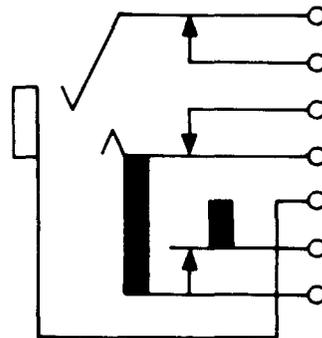

Fig. 9—559A Jack
2.09 **559A:** This unit-type jack (Fig. 9) is designed for strip-type mounting and furnished only on orders for jack mountings. This jack is designed to be used with the 309 plugs and is used with the 271A jack mounting. This jack is used in Panel, Crossbar, and Toll Telegraph Systems.